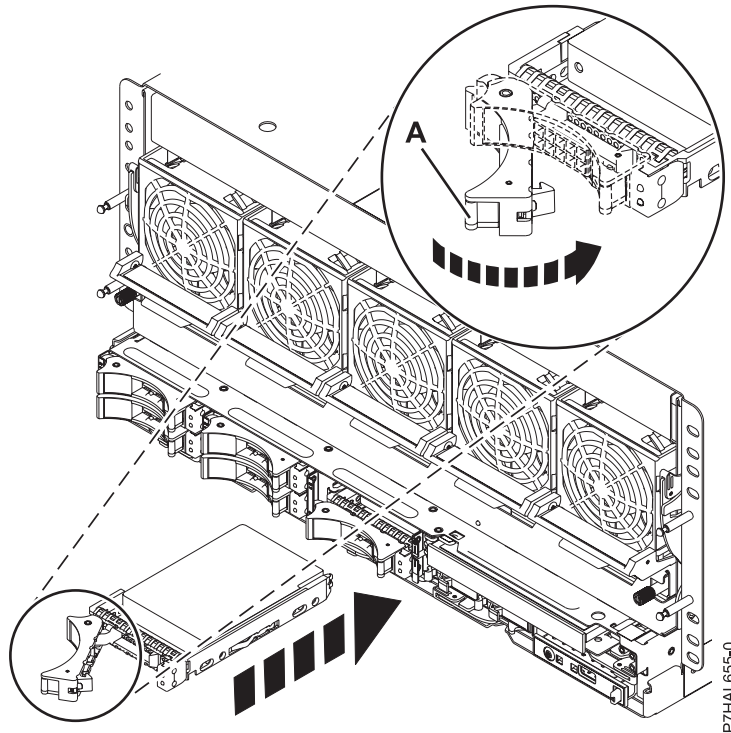

Figure 35. Replacing a disk drive in the system
7. When the identify LED turns on solid, slide the disk drive or solid-state drive all the way into the system or an expansion unit, and push the drive handle **(A)** in until it locks, as shown in Figure 35.